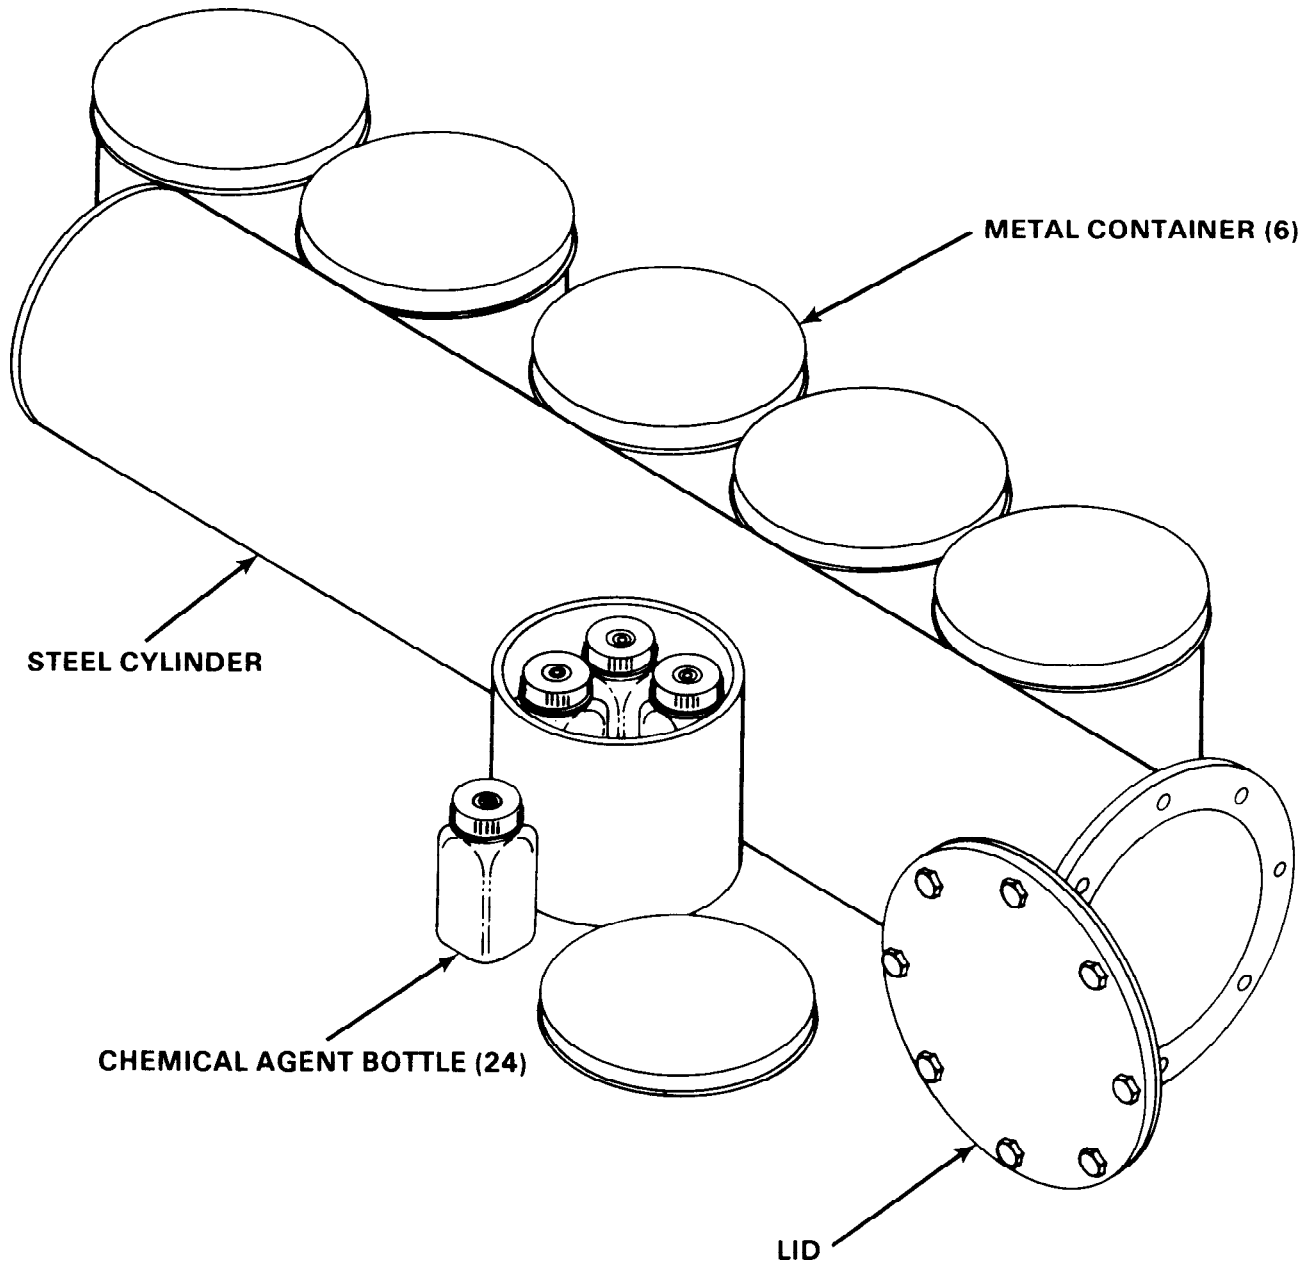

Figure 15-2.7. M1 Training Toxic Gas Set
15-2.7.2. Description. The M1 Gas Set, Figure 15-2.7, consists of a cylindrical forged-steel shipping container 0.145 inch thick and approximately 38.00 inches long and 6.62 inches in diameter. The shipping container is sealed with a steel cover with lead gasket and secured by eight bolts. Six sealed metal containers are packed in the steel cylinder. Each of the six containers has four 4.0 ounce bottles filled with 3.5 ounces of either Mustard (H) or Distilled Mustard (HD) (100%). Each bottle is placed in a layer of sawdust to prevent breakage.